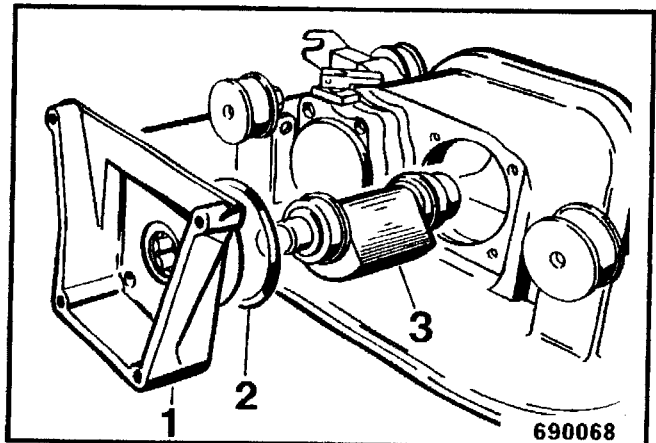

Fig. 10
- Remove the bearing flange 1 (Fig. 10) with the seal ring (2).
- Take the exciter shaft (3) out of the housing.